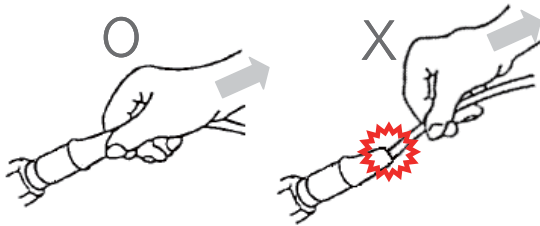

Figure 2. Ignition plug separation
- When removing a high-tension wire, be sure to hold the cap area. (refer to Figure 2)